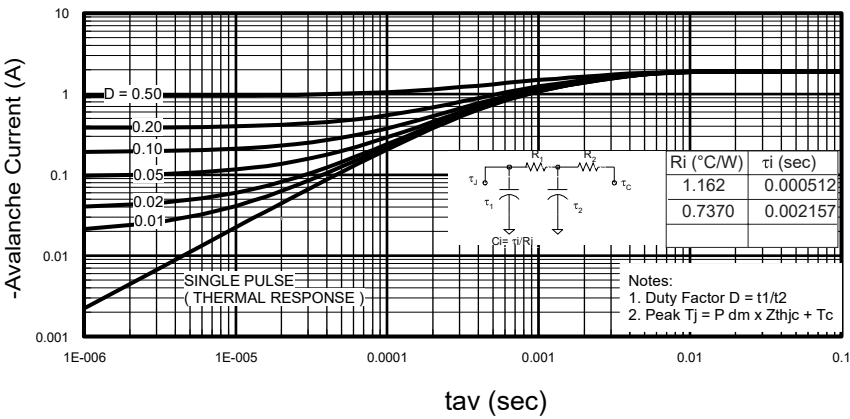

Figure 14: Typical Avalanche Current Vs.Pulsewidth
- ① Repetitive rating; pulse width limited by max. junction temperature.
- ② Starting $T_J=25^{\circ}\text{C}$, $L=1.2\text{mH}$, $R_G=25\Omega$, $I_{AS}=-14\text{A}$.
- ③ Pulse width $\leq 400\mu\text{s}$; duty cycle $\leq 2\%$.
- ④ This only applies for I-Pak, LS of D-Pak is measured between lead and center of die contact.
- ⑤ R_{θ} is measured at T_J approximately 90°C .
- ⑥ Contact factory for mounting information.
- ⑦ Limited by T_{Jmax} . See Figs. 14, 15, 17a, 17b for repetitive avalanche information.
- ⑧ When D-Pak mounted on 1" square PCB (FR-4 or G-10 Material) .For recommended footprint and soldering techniques refer to application note #AN-994.
- ⑨ Refer to D-Pak package for Part Marking, Tape and Reel information.
Notes on Repetitive Avalanche Curves , Figures 14, 15:
T_{jmax} (assumed as 25°C in Figure 14, 15).